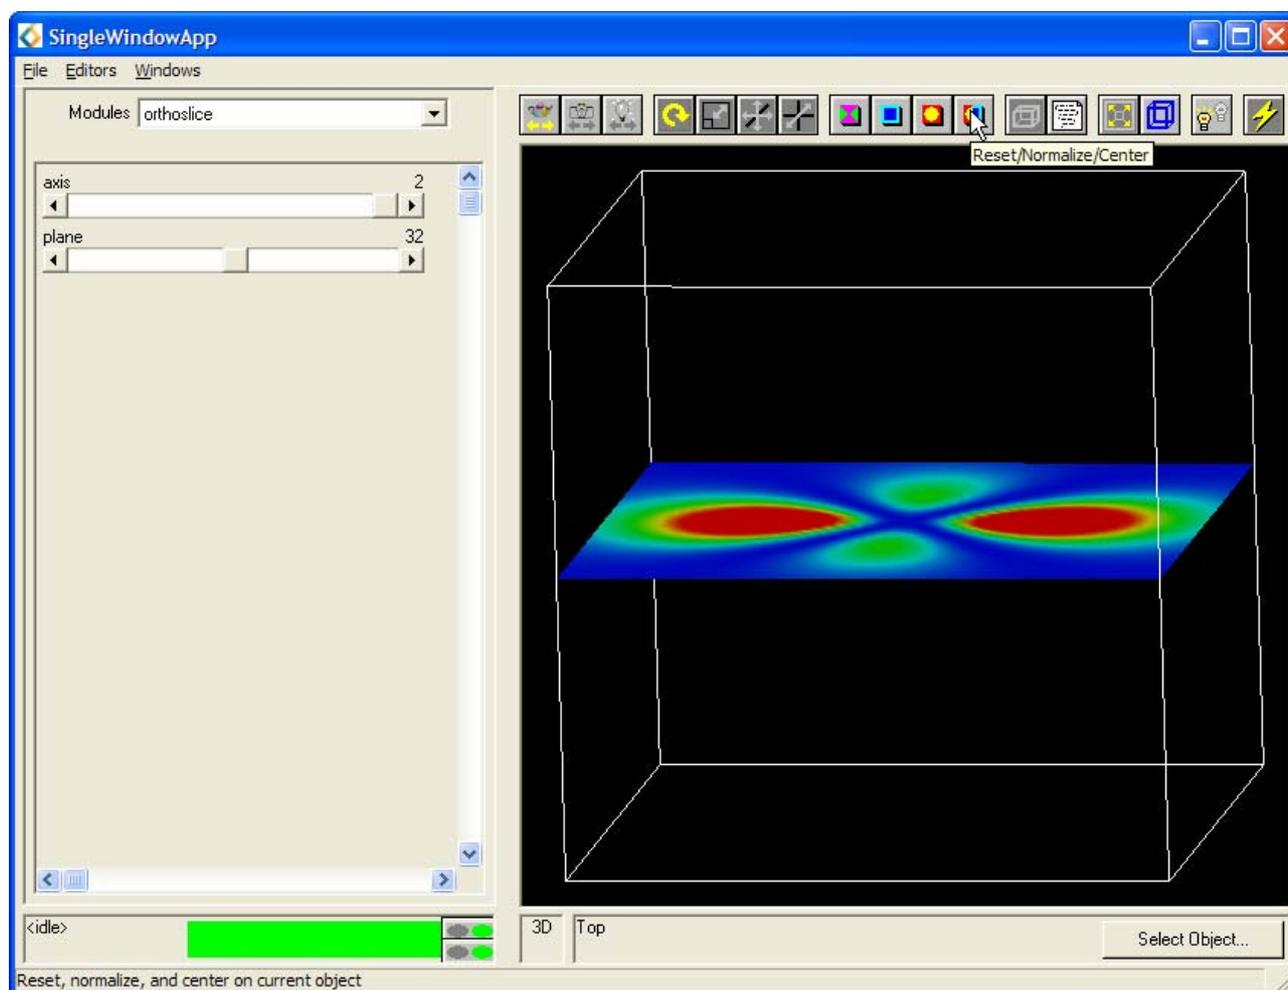

Figure C.19: orthoslice Editor Panel and Transformed Image
- Now using the **scale**, **rotate** and **translate** icons manipulate the object until the scene appears similar to that shown in Figure C.19